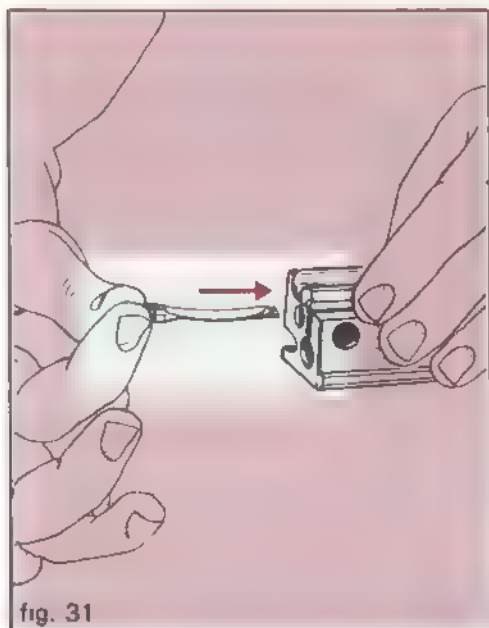

fig. 31
- 2 insert extractor in bolt from the rear with claw forward and slot in thick end up (fig. 31)